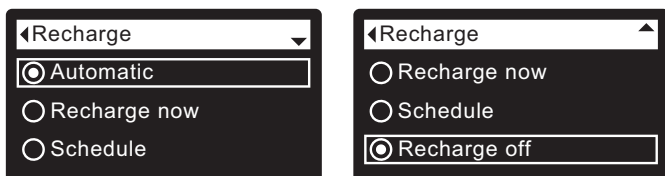
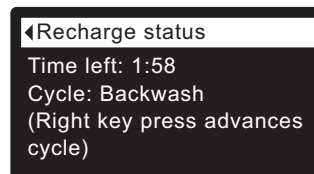

FIG. 43
FIG. 44
3. Press the SELECT (O) button to display the Recharge menu (See Figure 43).
4. If the desired option already has a dot next to it (See Figure 43), go to Step 5. Otherwise, press the DOWN (▼) or UP (▲) buttons to scroll to the desired option, then press SELECT (O) to choose it.
- **Recharge now** begins a recharge immediately after the SELECT (O) button is pushed again in Step 5.
5. Press the SELECT (O) button. If **Recharge now** is selected, the display immediately goes to the Recharge status screen (See Figure 44).